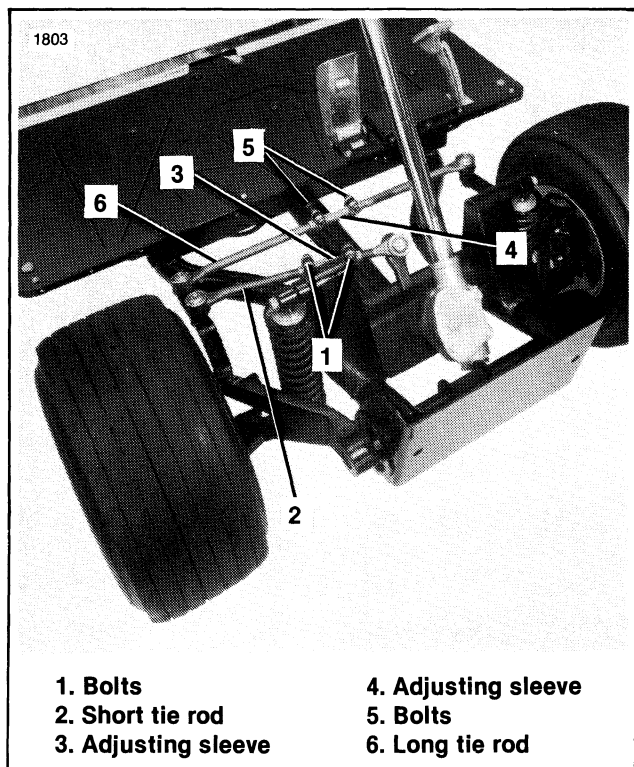

Figure 2-22. Tie Rod Adjustment
5. See Figure 2-22. To adjust wheel alignment, loosen two bolts (1) on short tie rod (2) and turn adjusting sleeve (3) until front wheel is in alignment with the rear wheel, continually checking to be sure steering wheel remains in centered position.
7. See Figure 2-22. To adjust left wheel alignment, loosen two bolts (5) on long tie rod (6) and turn adjusting sleeve (4) until front wheel is in alignment with rear. Check to be sure steering wheel remains in centered position.
9. When alignment is achieved on each front wheel and steering wheel is centered, tighten tie rod adjusting sleeve bolts (1 and 5, Figure 2-22).